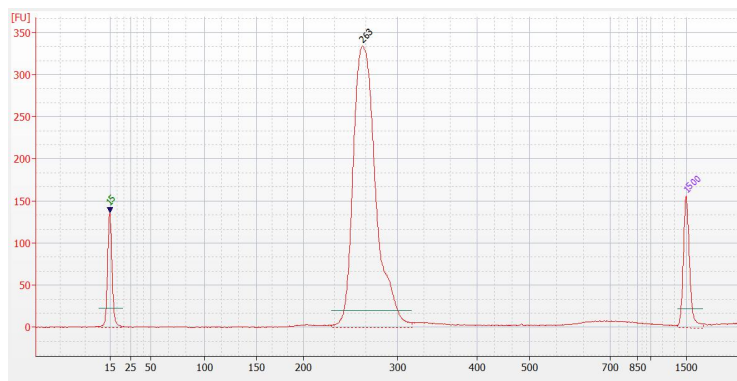

Figure 2 Diagram of the quality control of the library on Agilent 2100 Bioanalyzer DNA1000 Chip Reagent
- 2) DNA fragment QC(optional): Quantify the DNA library fragment size using Agilent 2100 Bioanalyzer System and Agilent DNA 1000 Kit, the main peak of the DNA fragment size should be at 230~330 bp, as shown in Figure 2.